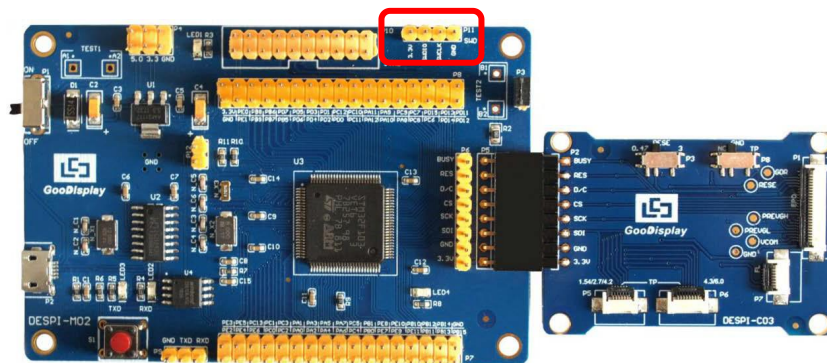

Figure 13 : SWD interface
- 1) As shown in figure 13, DESPI-M02 has a 4-wire SWD interface, which can be connected to the simulator interface by 4 wires and then connect the simulator to the computer.